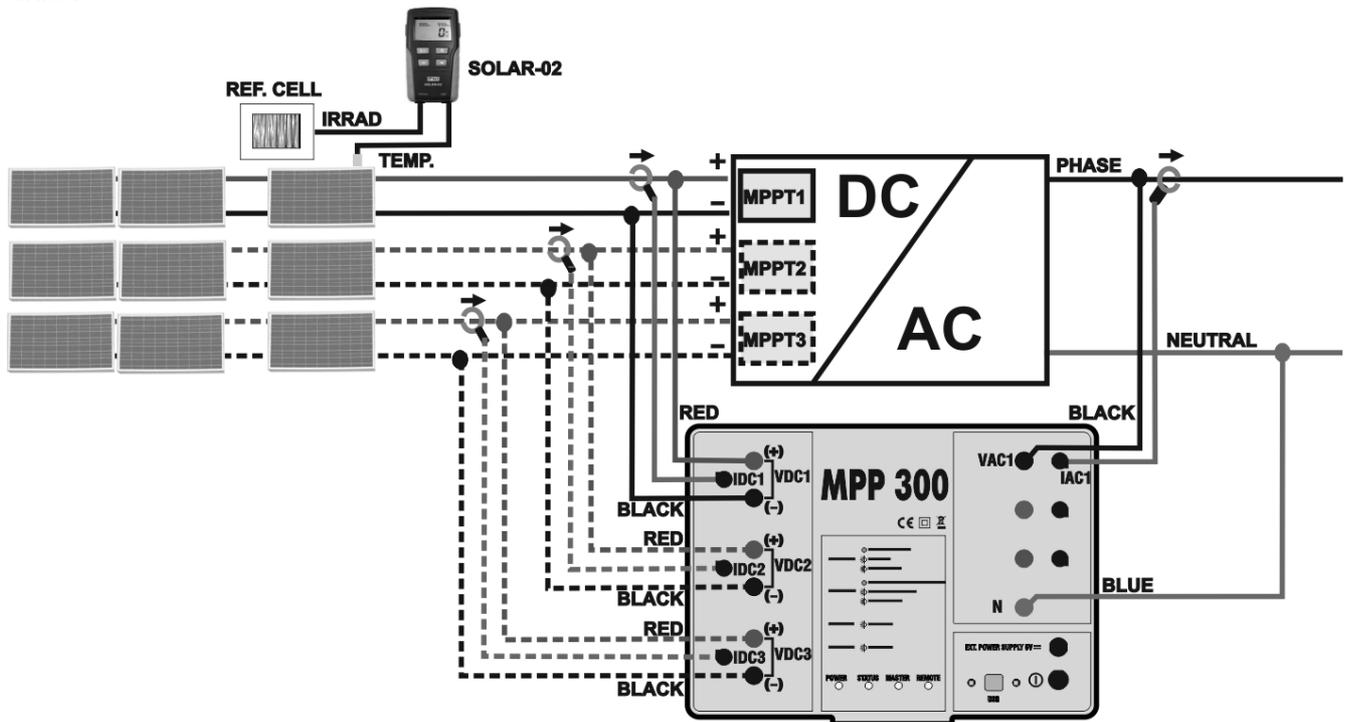
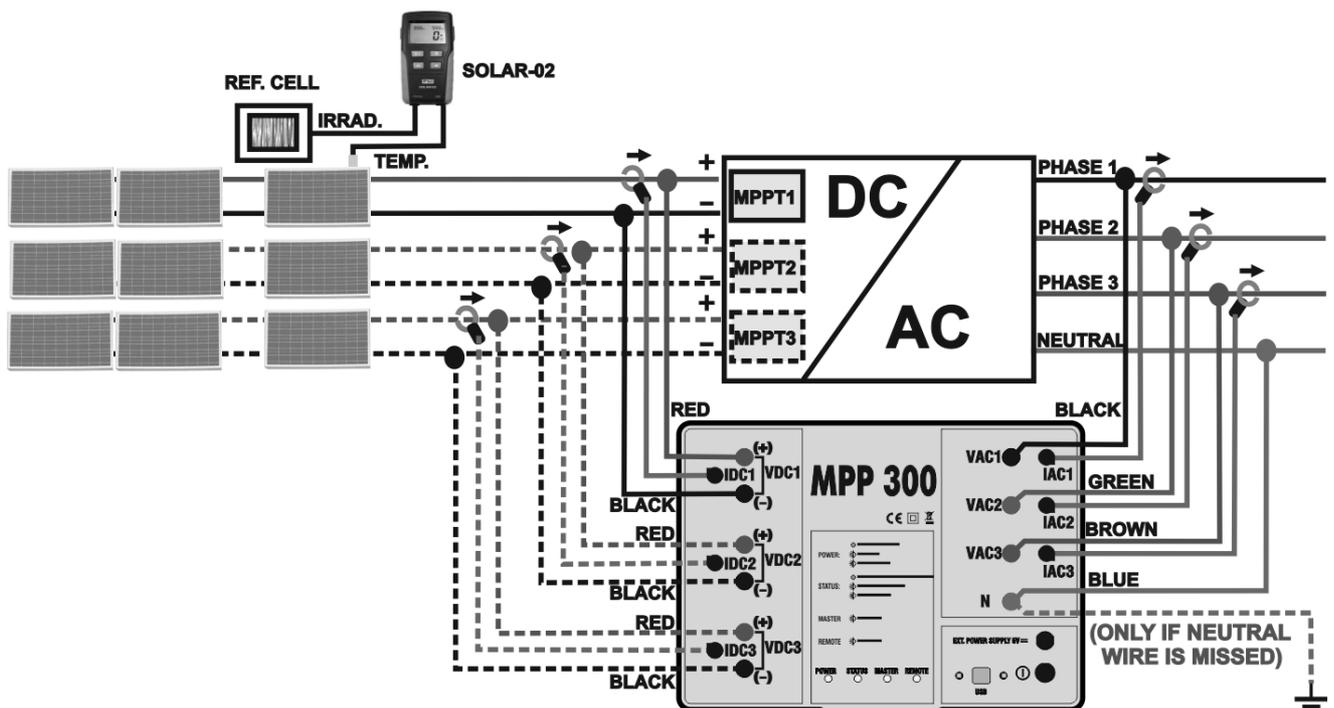

Fig. 246: Connection of MPP300 for testing a single-phase PV system
Fig. 247: Connection of MPP300 for testing a three-phase PV system
7. Fig. 246 Fig. 247 Connect the **VDC1(+)** and **VDC1(-)** inputs of unit **MPP300** to the output terminals of the string, respecting the polarities and the colours indicated in Fig. 246 or Fig. 247.
10. **Fig. 247** Insert the DC current clamp onto the positive output conductor of the string, **respecting the direction of the arrow** found on the clamp itself as indicated in Fig. 246 or Fig. 247. Position the clamp toroid as far as possible from the inverter and from the negative output conductor of the string itself.
12. Connect the **VAC1** and **N** inputs of unit **MPP300** to the Phase and Neutral conductors respectively, respecting the polarities and the colours indicated in Fig. 246 or Fig. 247. In case of three-phase systems in which no Neutral conductor is available, connect input **N** to earth.
14. **Fig. 247** Connect the AC clamp to the Phase L1 conductor, **respecting the direction of the arrow** found on the clamp itself as indicated in Fig. 246. and/or Fig. 247. Position the clamp toroid as far as possible from the inverter and from the Neutral conductor. Connect the clamp output to the IAC1 input of MPP300.